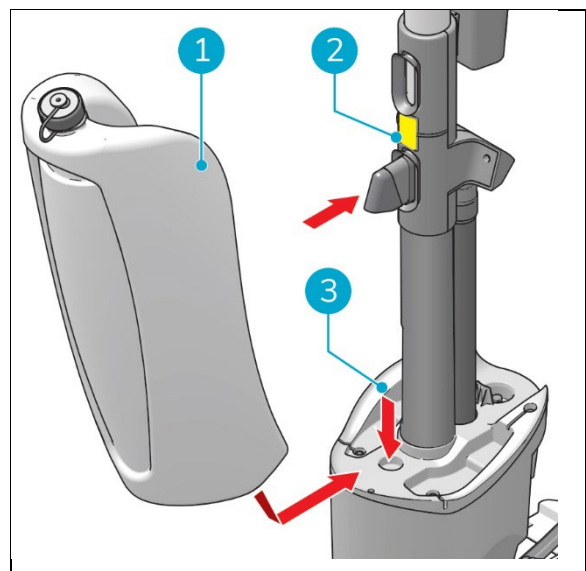

Figure 10
1. Put the bottom of the recovery tank (Figure 10, pos 1 and pos 3) on the front of the i-mop® XXL pro.
2. Push the top of the tank into place until you hear a 'click' sound, the magnet (Figure 10, pos 2) will lock the recovery tank into place.